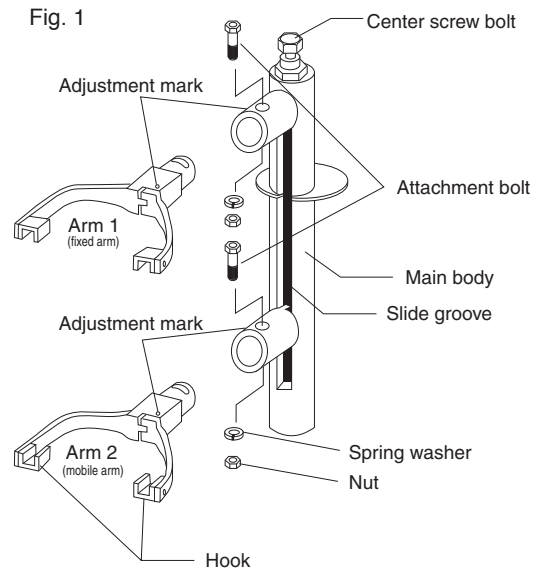

Fig.2 Coil spring
- If excessive load is applied on spring compressor, breaking mechanism will work inside the drive of center screw bolts. (Breaking load: 1,300kgs.) (Fig.2)
- ① Check that the attachment bolts and nuts on Arm 1 and Arm 2 are not loose.
- ② Arm 1 and Arm 2 necks should sway freely.
- ③ Turn the center screw bolt with your hands and check that Arm 2 moves smoothly along its full stroke.
- ④ The hook moves swiftly left and right.
- ⑤ There are no signs of cracking, deformity, or damage.
- ① Attach to the diameter section of the spring when attaching the hook to the spring. (Fig. 2)
- ② Set to the widest position when considering the span of the hook for the upper and lower arms. (Distance between diagram 3A and B)